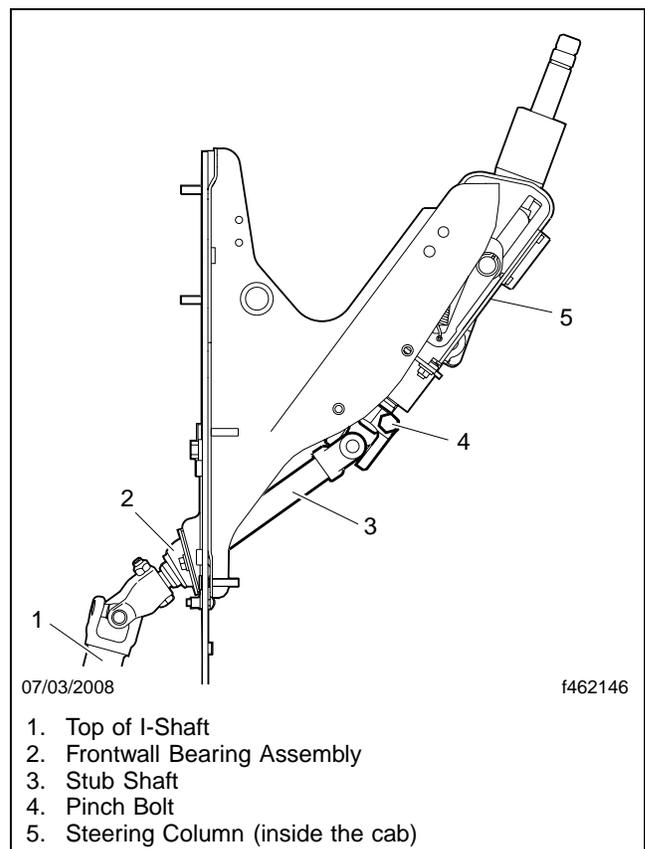

Fig. 3, Stub Shaft Installation, Side View
26. Install the new stub-shaft, and fit a new pinch bolt and nut in the U-joint; as shown in **Fig. 3**. Tighten the nut 30 to 35 lbf-ft (41 to 47 N·m).